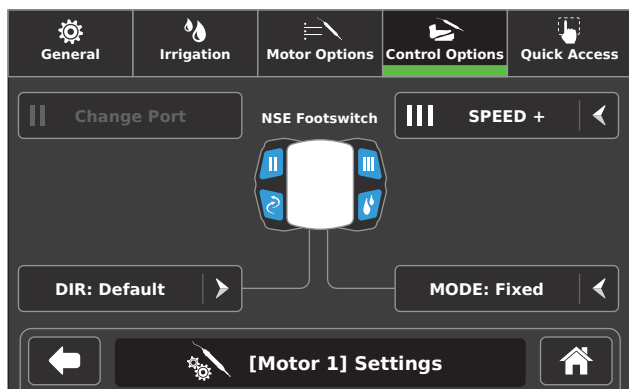
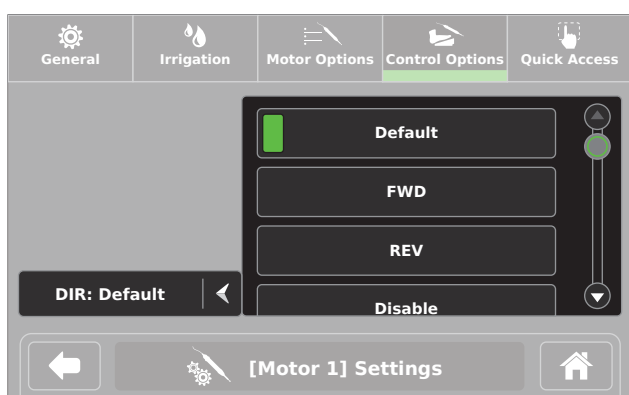

Figure 25 – NSE Footswitch Control Options Screen
Figure 26 – Options List
- Adjust control options as necessary (Figure 25 and Figure 26).